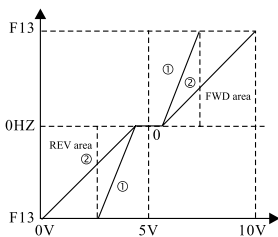

Figure 1
※ Please refer to Figure 1 , 2 , 3 and see the description of parameters in the table below :
1. In Figure 1, F56 set value is 7 for the display of input analog signal, F58 set value is 16384, reference standard point is 100%, and the highest corresponding value of AO analog signal output is DC +10V.